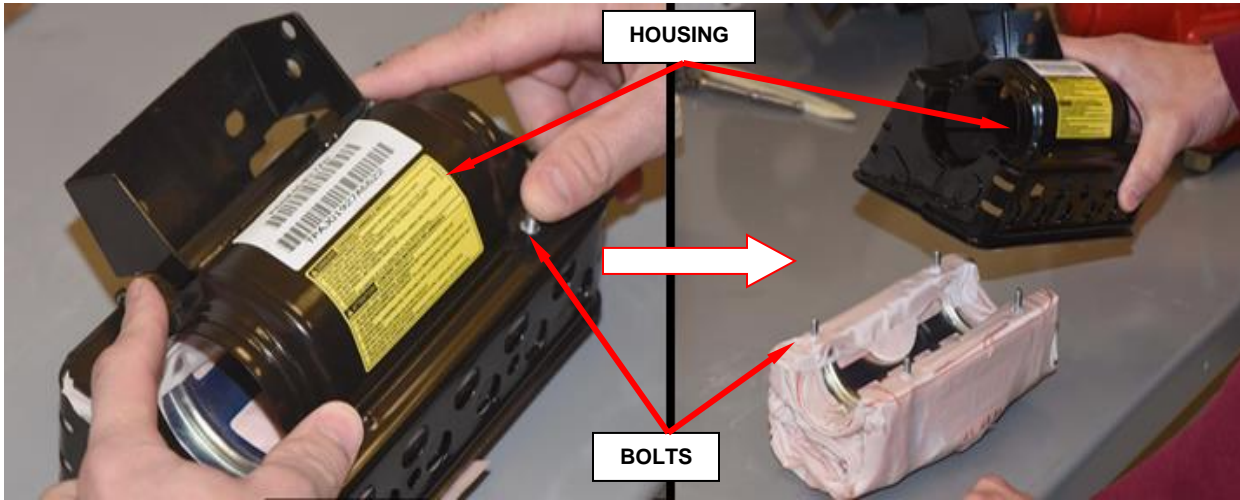

Figure 64 - Remove Airbag Cushion from Housing
- h. Remove airbag cushion from housing by applying pressure to the bolts, set cushion aside (Figure 64).